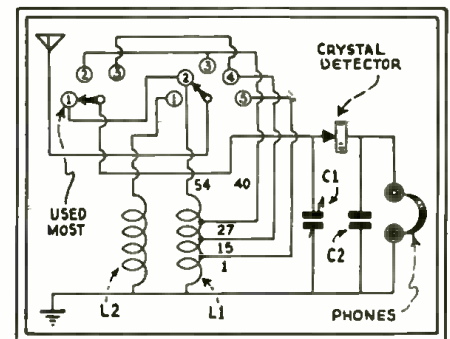

Fig. 3
**T**O date, the writer has picked up the signals of KFI, 750 miles distant, with sufficient strength to hear them in a room 12 x 16 feet, using the receiver which is connected as shown in Fig. 3. On some nights, 12 to 15 Pacific coast stations can be tuned in at my location in Eugene, Oregon. The parts used by the writer are as follows: